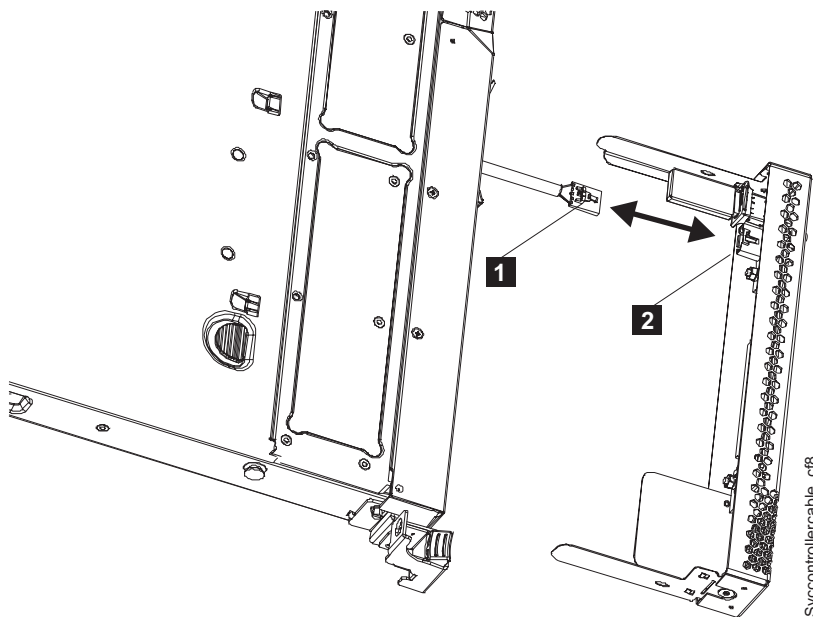

Figure 76. Removing and replacing the USB cable in the SAN Volume Controller 2145-CG8 or 2145-CF8 service controller
- a. Disconnect the USB cable ( **1** in Figure 76) from the service controller ( **2** ).
- d. Install the other end of the USB cable in the USB connector ( **2** in Figure 76 on page 89) on the rear of the service controller.